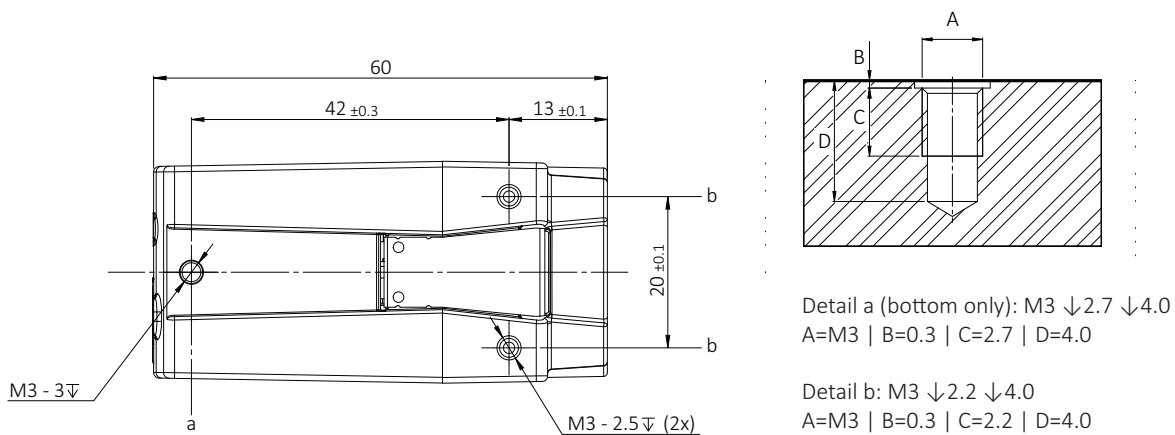

Figure 34: Mounting threads bottom (a and b) and top (b)
1. As shown in Figure 34, mount the camera to the base using suitable M3 screws
- a. Mounting thread a (bottom only): At 0.62 Nm maximum torque for a thread engagement (C) of 2.7 mm between screws and mounting threads.
- b. Mounting thread b: At 0.51 Nm maximum torque for a thread engagement (C) of 2.2 mm between screws and mounting threads.